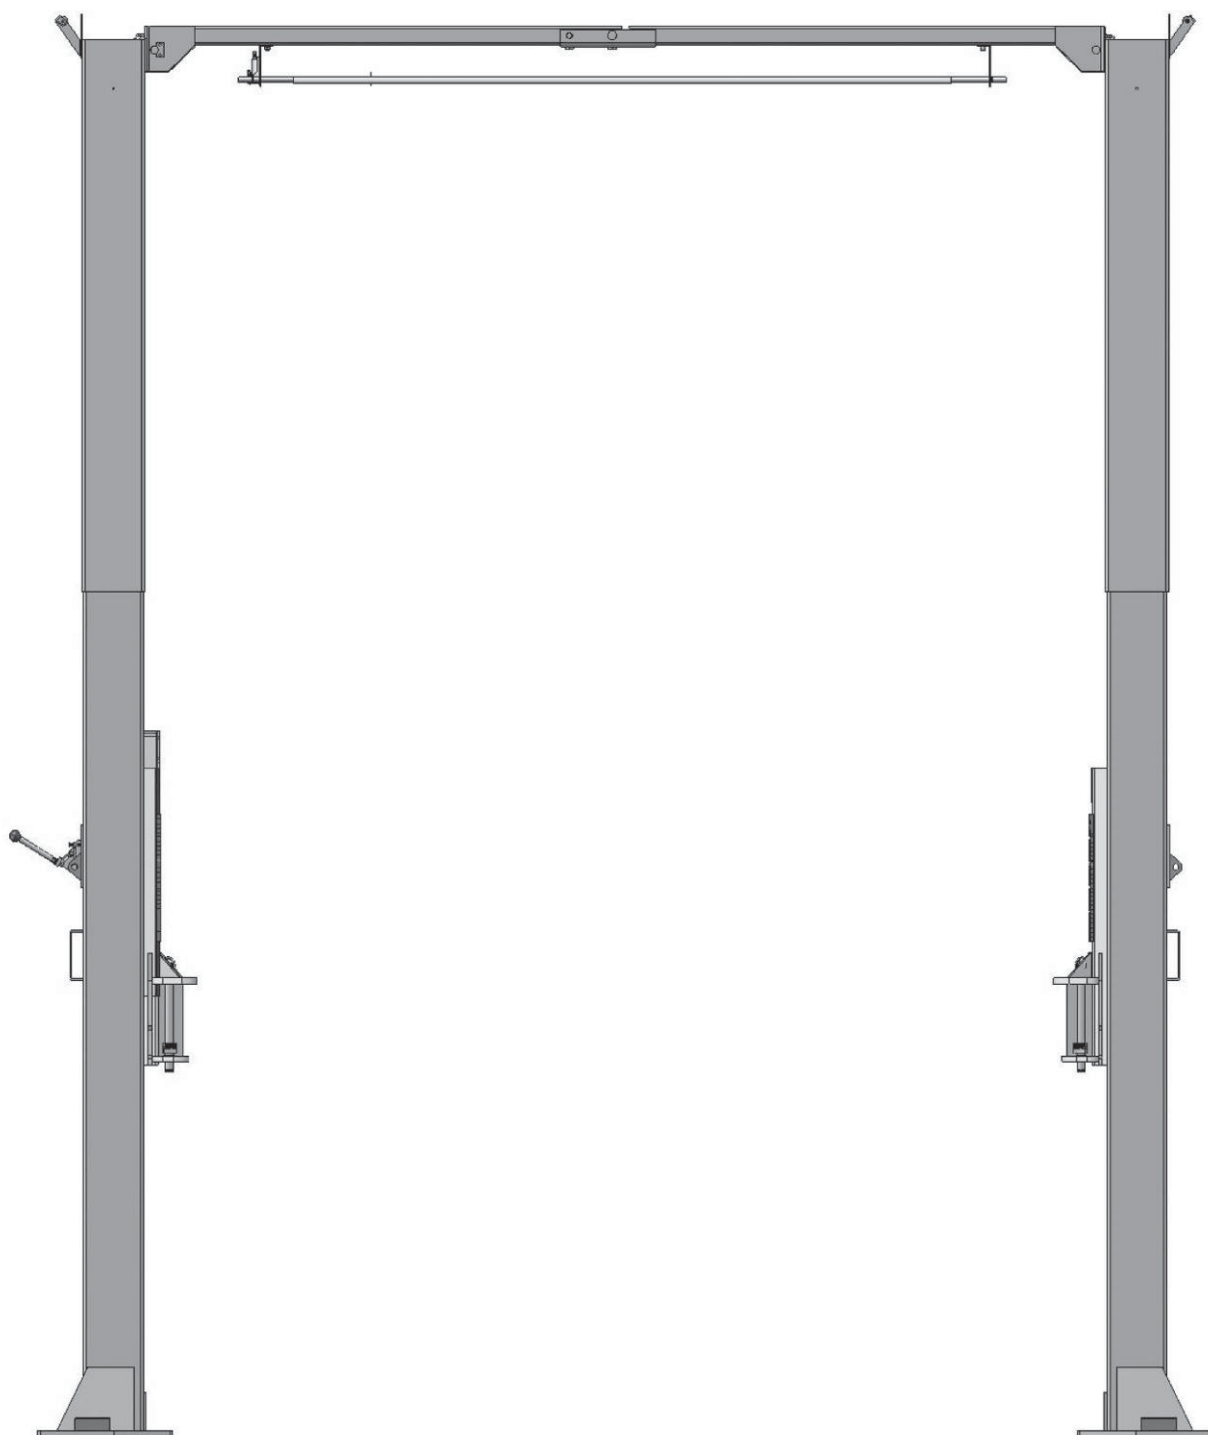

Fig. 26
K. Lift the carriages up by hand and lock them at the same level (See Fig. 26).